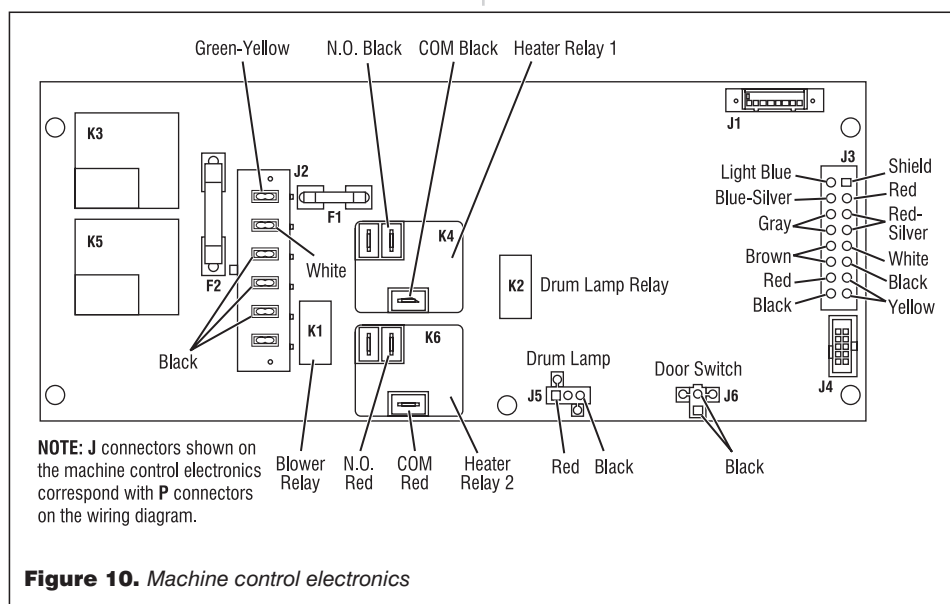

Figure 10. Machine control electronics
6. Remove all the wire connections to the machine control board. See figure 10.